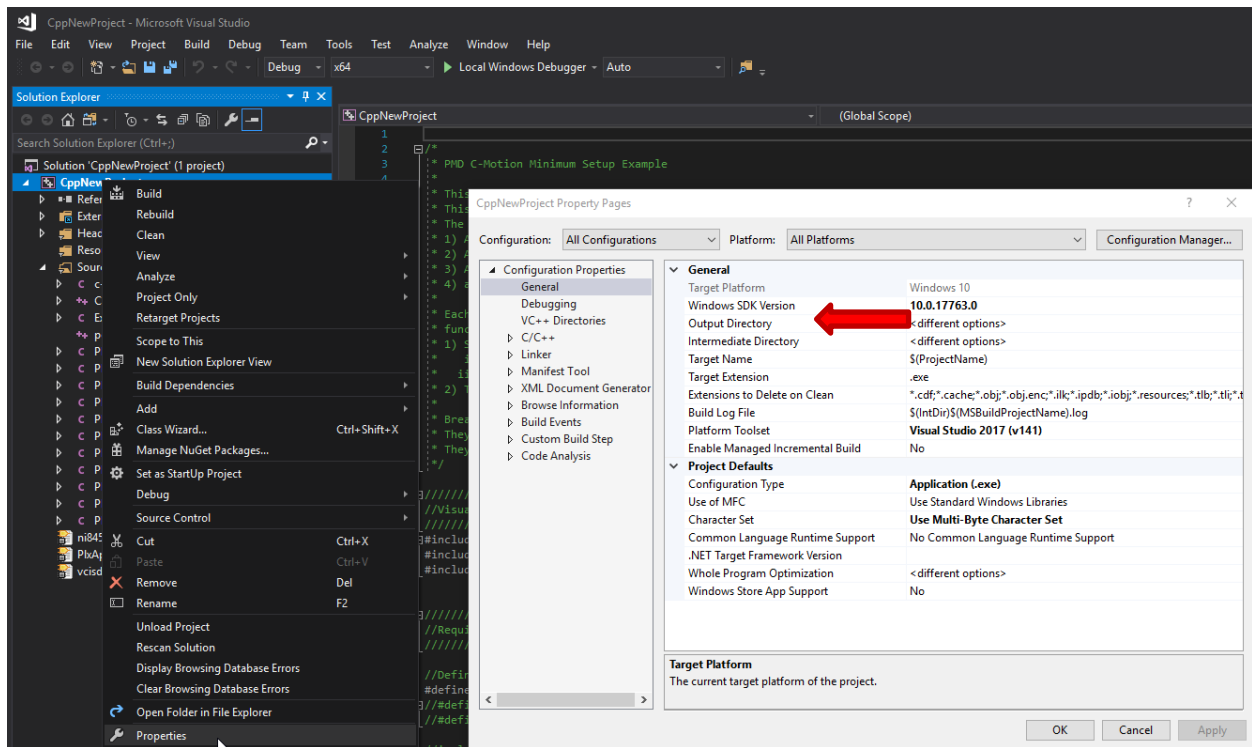

Figure 57 - VS2017 Output Directory
- 10) Once the project has been “Built” or compiled, it can also be run by using the generated “projectname.exe” file found at the debug output location, the typical default is below, and can also be found by browsing through project properties, in “General” and selecting the output directory, per Figure 57 - VS2017 Output Directory